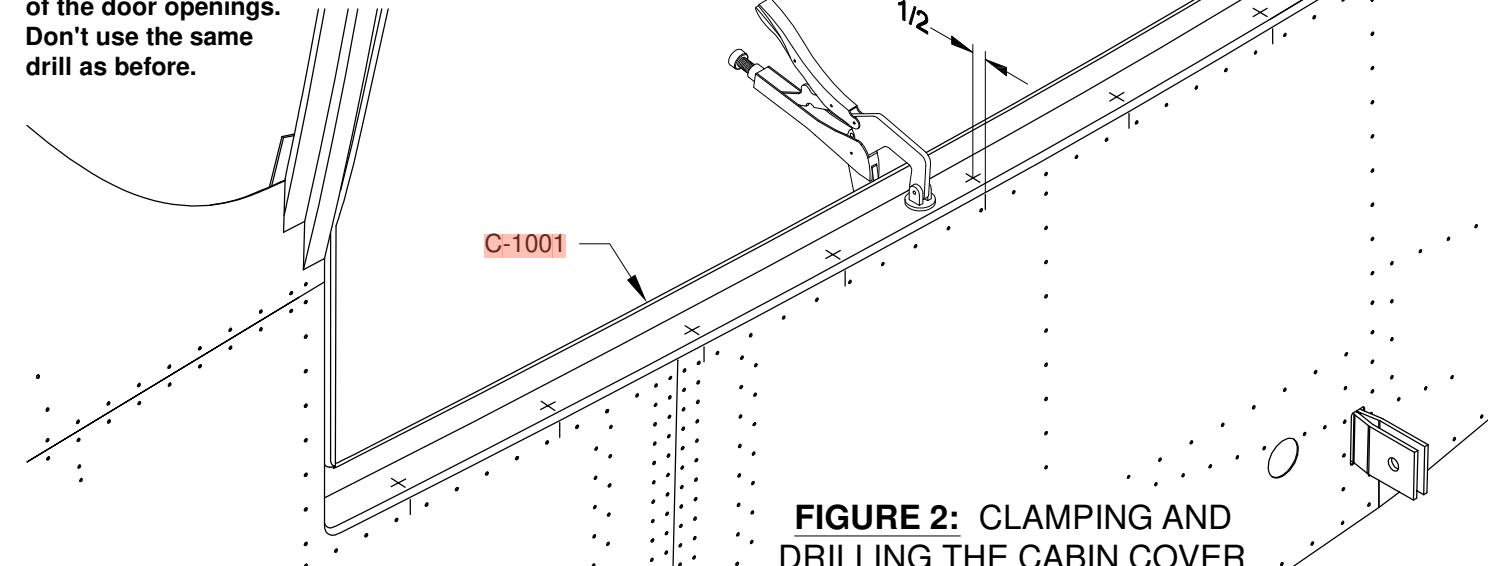

FIGURE 2: CLAMPING AND
Step 5: Clamp the middle, bottom portion of the C-1001 Cabin Cover door openings to the underlying F-1015C Mid Cabin Decks as shown in Figure 2.